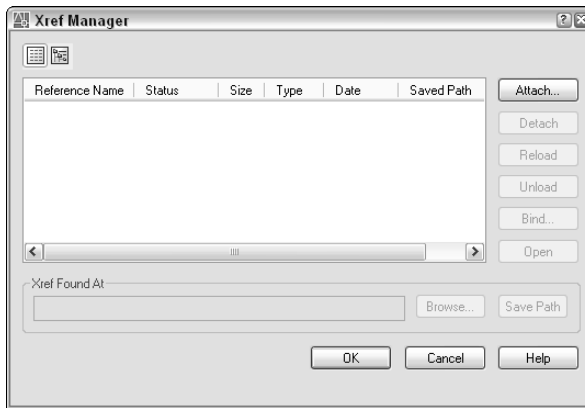

Figure 19-1: The Xref Manager.
1.  Choose External Reference from the Reference toolbar (or choose Insert ⇨ Xref Manager) to start the XREF command. The Xref Manager (shown in Figure 19-1) opens. It is your one-stop shopping mall for external references. This dialog box enables you to manage all of your xrefs in one place.